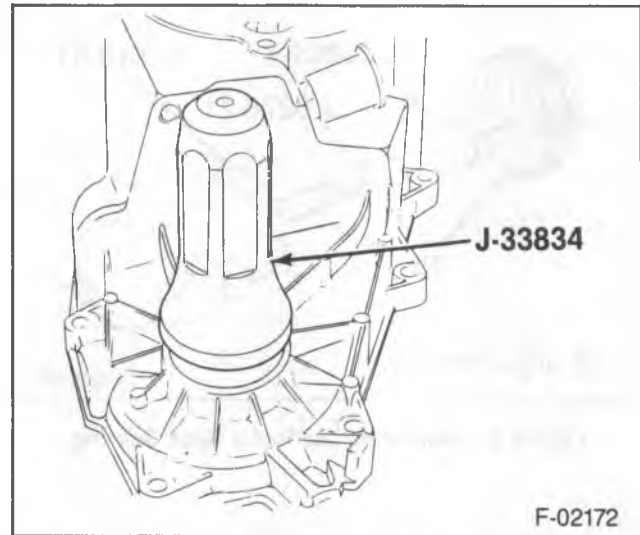

Figure 12—Front Output Shaft Seal Installation
7. Thrust washer (37).
8. Carrier lock ring (78).
9. Retainer (39).
10. Bearing (40) to the front case half (45) using J 36372.
11. Oil seal (1) to the rear extension (4) using J 33843.
12. Input bearing retainer seal (42) to the input bearing retainer (44) using J 33831.
13. Front output shaft seal (72) to the front case half (45) using J 33834 (figure 12).
14. Magnet (25) into front case half (45).